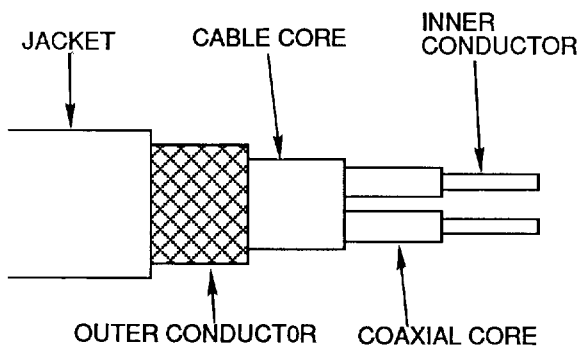

Figure 3. Twin Coaxial (Parallel)
b. **TWIN COAXIAL.** A twin coaxial cable consists of two individually insulated conductors within a common shield. These insulated conductors are either laid parallel or twisted and placed concentrically within an additional dielectric cable core. The shield is placed over the cable core protected by a jacket and may be covered by an armor jacket (Figure 3).